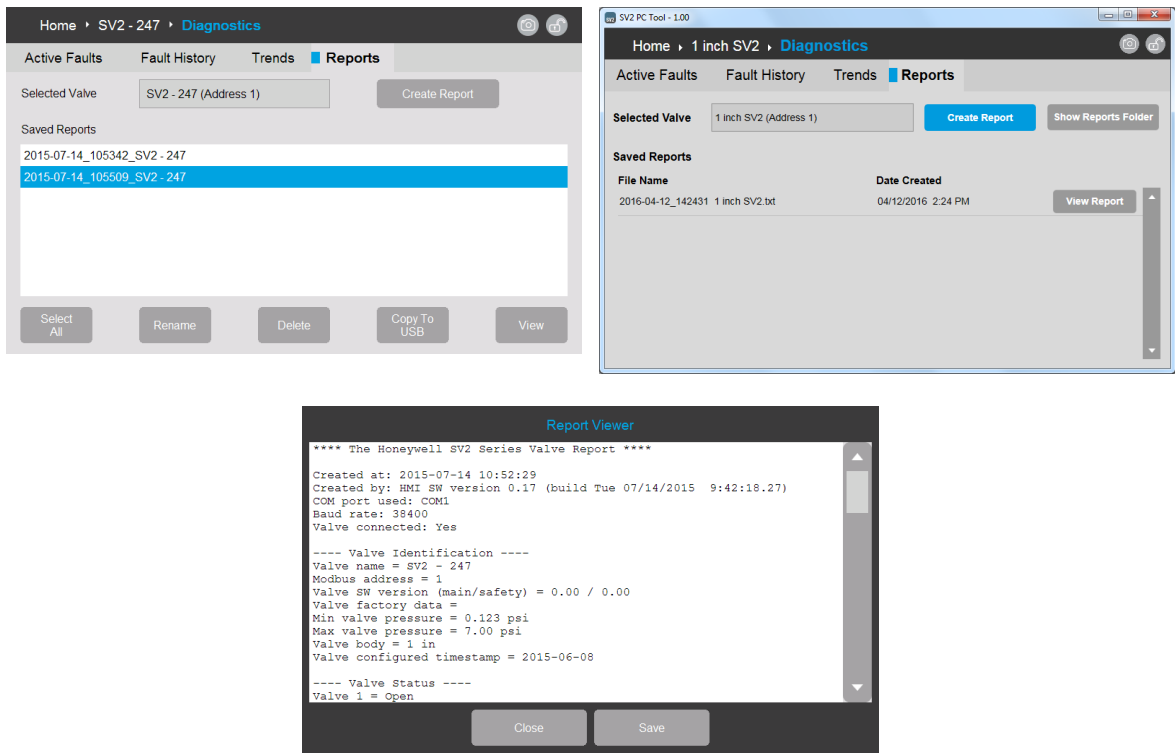

Fig. 50. Diagnostics – Reports.
**Reports** Opens the Reports tab, which allows user to create, view, save and copy reports regarding the valve. Refer to Fig. 50.
Select **SV2 - 247** on Diagnostics page. Refer to Fig. 50.